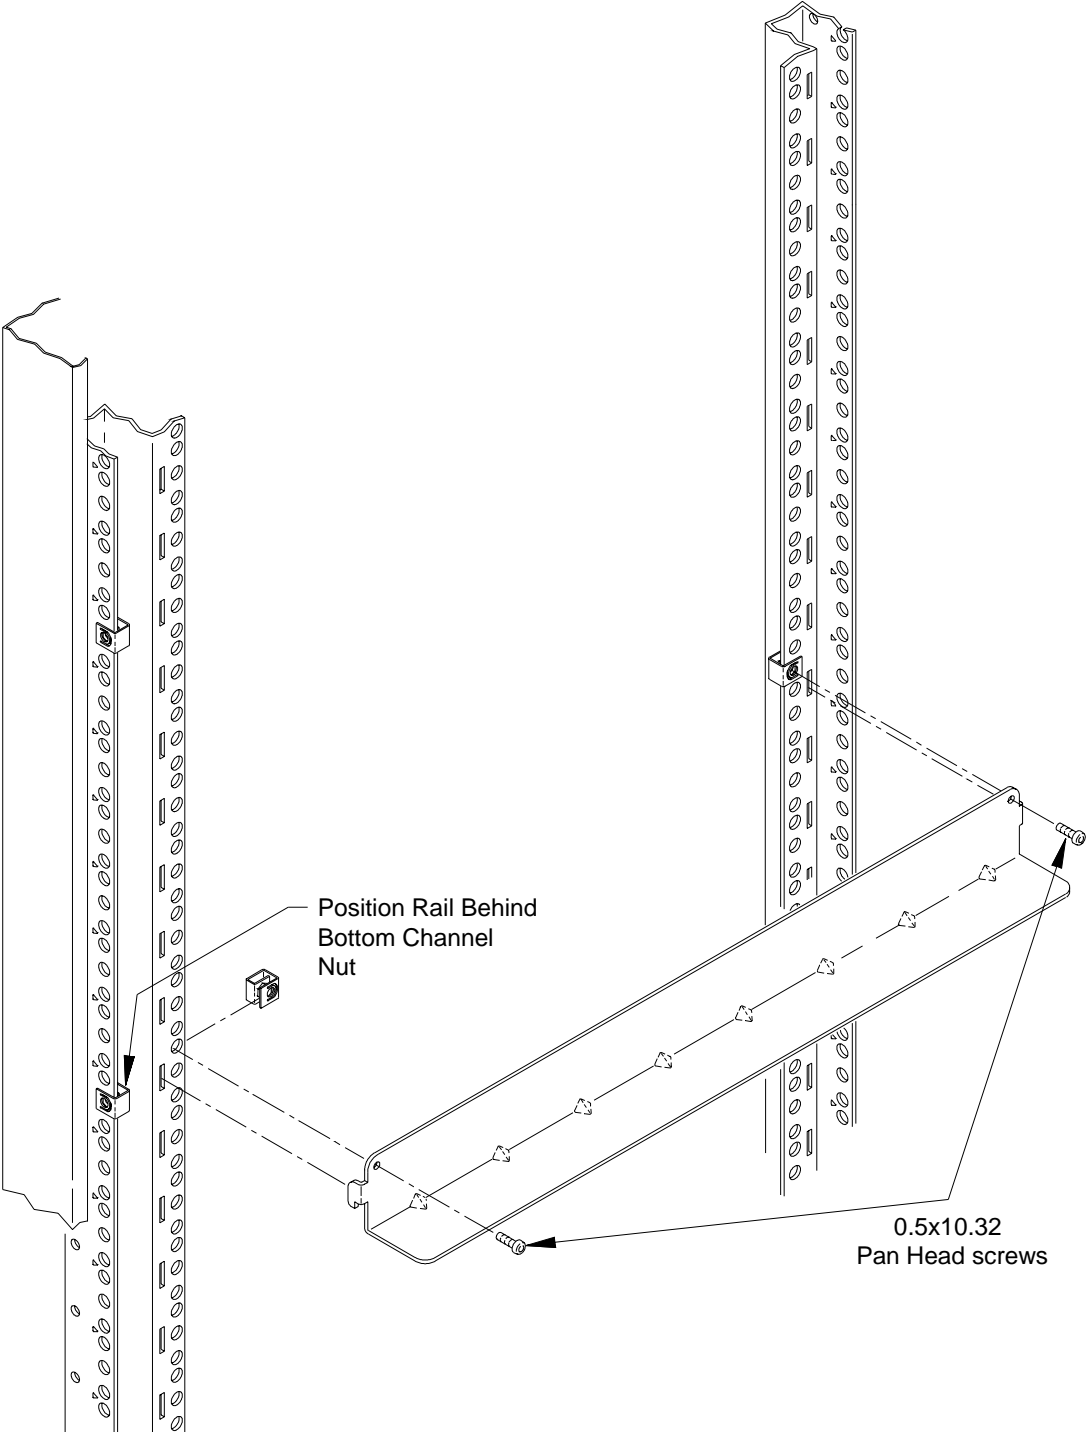

Figure B-3. Attaching the Support Rails to the Rack.
4. Attach the support rails to the rack's inside vertical rails. The support rails must be positioned behind the **bottom** channel nuts installed in Step 3. Refer to Figure B-3. Use four channel nuts and the four 0.5x10-32 support rail-to-rack pan head screws to secure the rail.